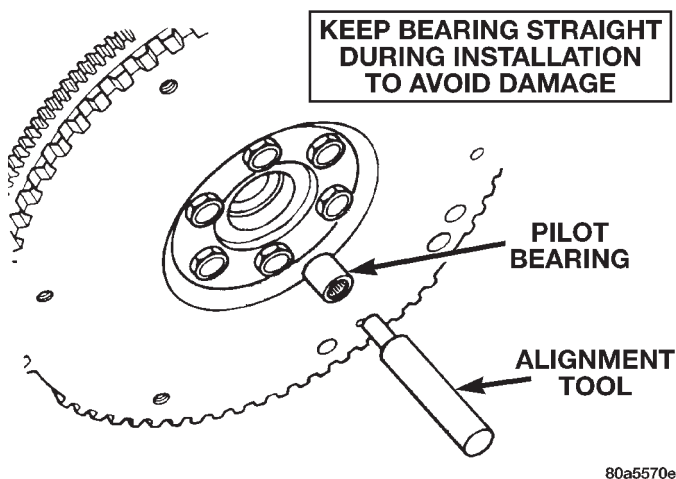

Fig. 7 Pilot Bearing Installation
(2) Start new bearing into crankshaft by hand. Then seat bearing with clutch alignment tool (Fig. 7).